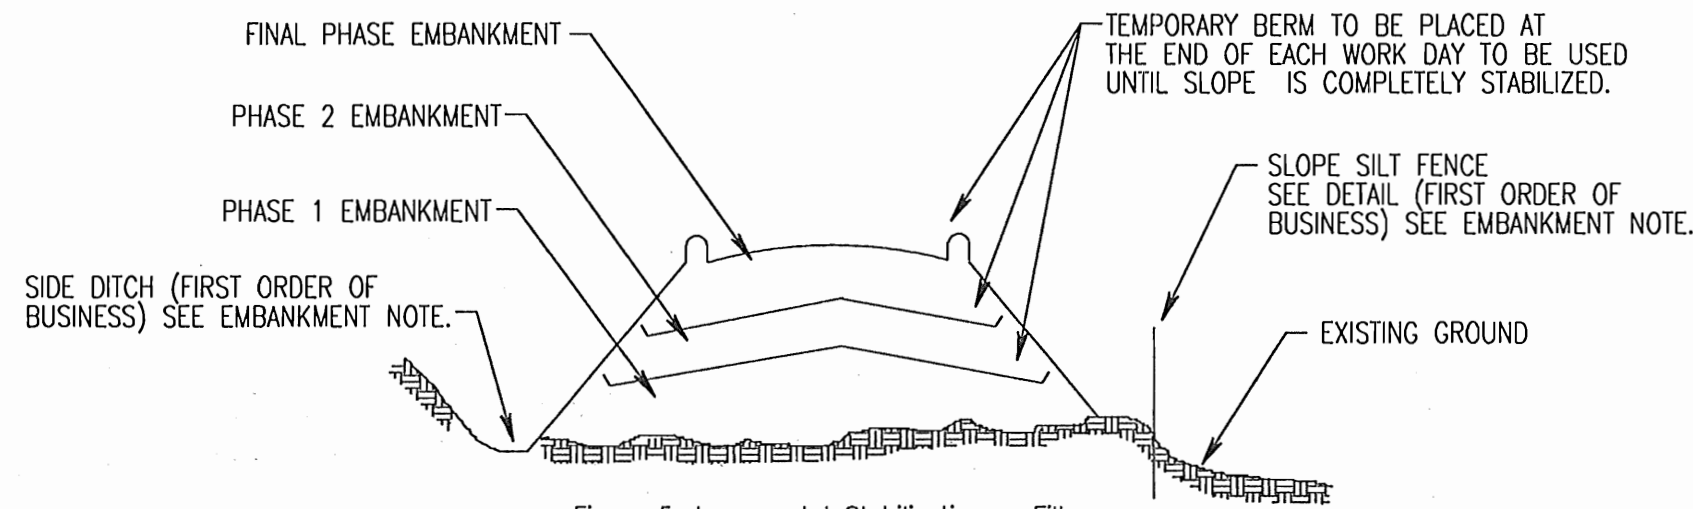

Figure 5. Incremental Stabilization - Fill
- Select one or more of the species or mixtures listed in Table 26 for the appropriate Plant Hardiness Zone (from Figure 5) and enter them in the Temporary Seeding Summary below, along with application rates, seeding dates and seeding depths. If this Summary is not put on the plans and completed, then Table 26 must be put on the plans.
- Select one or more of the species or mixtures listed in Table 25 for the appropriate Plant Hardiness Zone (from Figure 5) and enter them in the Permanent Seeding Summary below, along with application rates and seeding dates. Seeding depths can be estimated using Table 26. If this summary is not put on the construction plans and completed, then Table 25 must be put on the plans. Additional planting specifications for exceptional sites such as shorelines, streambanks, or dunes or for special purposes such as wildlife or aesthetic treatment may be found in USDA-SCS Technical Field Office Guide, Section 342 - Critical Area Planting. For special lawn maintenance areas, see Section IV Sod and V Turfgrass.